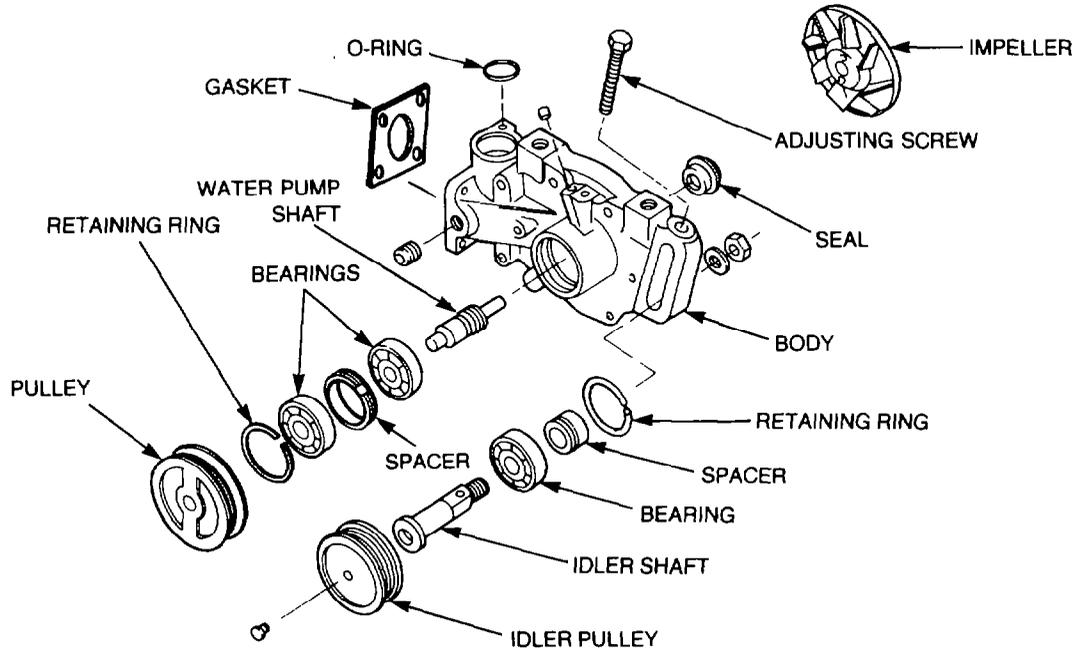

Figure 58 — Water Pump — Exploded View
- b. Remove the nut and washer securing the idler pulley shaft into the water pump body (see Fig. 58), then remove the idler pulley adjusting screw and the idler pulley assembly from the body.